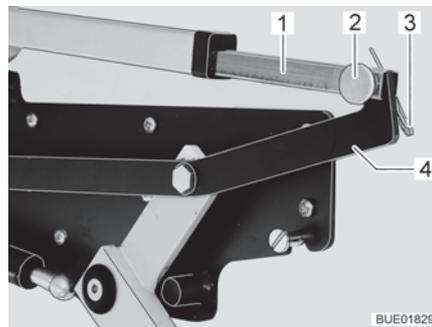

Fig. 123 Drive for the pull-down bed
- Release the connection between the push rod (Fig. 123,1) and lever (Fig. 123,4). To do this, pull out the splint (Fig. 123,3) and pin (Fig. 123,2).